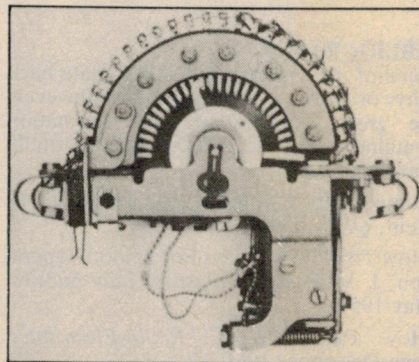

Figure 13. ▲ A stepping switch relay.
**Stepping switches:** these cover a wide range of relay-like devices are basically switches which operate sequentially when energised by a series of pulses. Figure 13 shows one typical form.